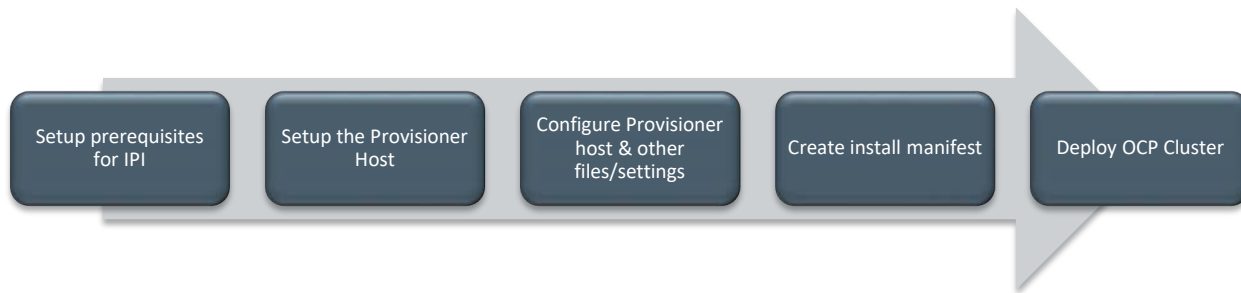

FIGURE 32. Red Hat OpenShift Container Platform Installer-provisioned installation – High-level setup flow
The high-level steps involved in setting up Red Hat OpenShift Container Platform Installer-provisioned infrastructure using three (3) master nodes, two (2) worker nodes, and using the bare metal network are as shown in Figure 32.